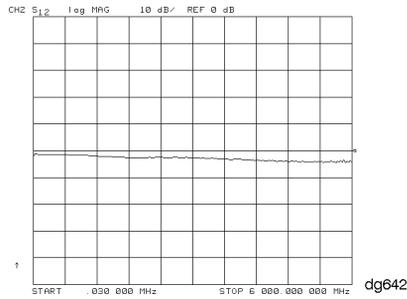

Figure 1-21. Reverse Transmission Display
The analyzer display shown in Figure 1-20 and Figure 1-21 are Agilent 8702D Option 011, Option 006 displays (30 kHz to 6 GHz span).
- 10 Press MEAS and then *Trans: E/E S12 REV* to check the reverse transmission mode for channel 2. The measurement trace should be similar to the trace shown in Figure 1-21.